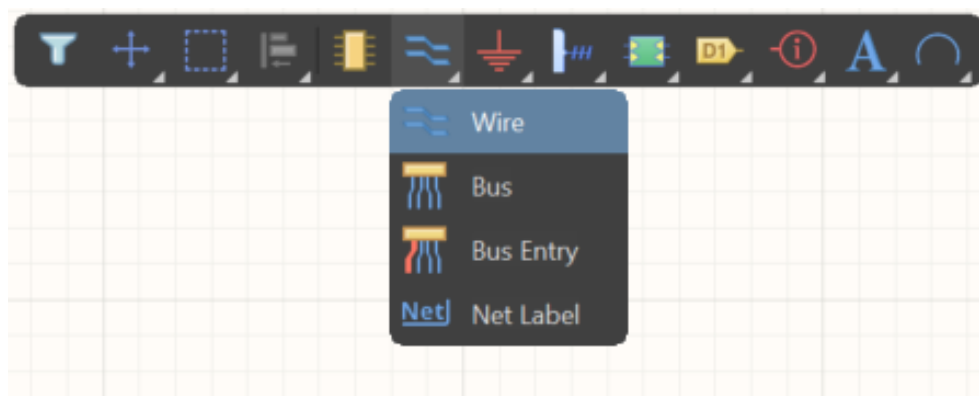

Figure 9. Place Wire from ActiveBar
- a) Go to **Place » Wire** (shortcut **P » W**). This can also be done from the *ActiveBar* as shown Figure 9.